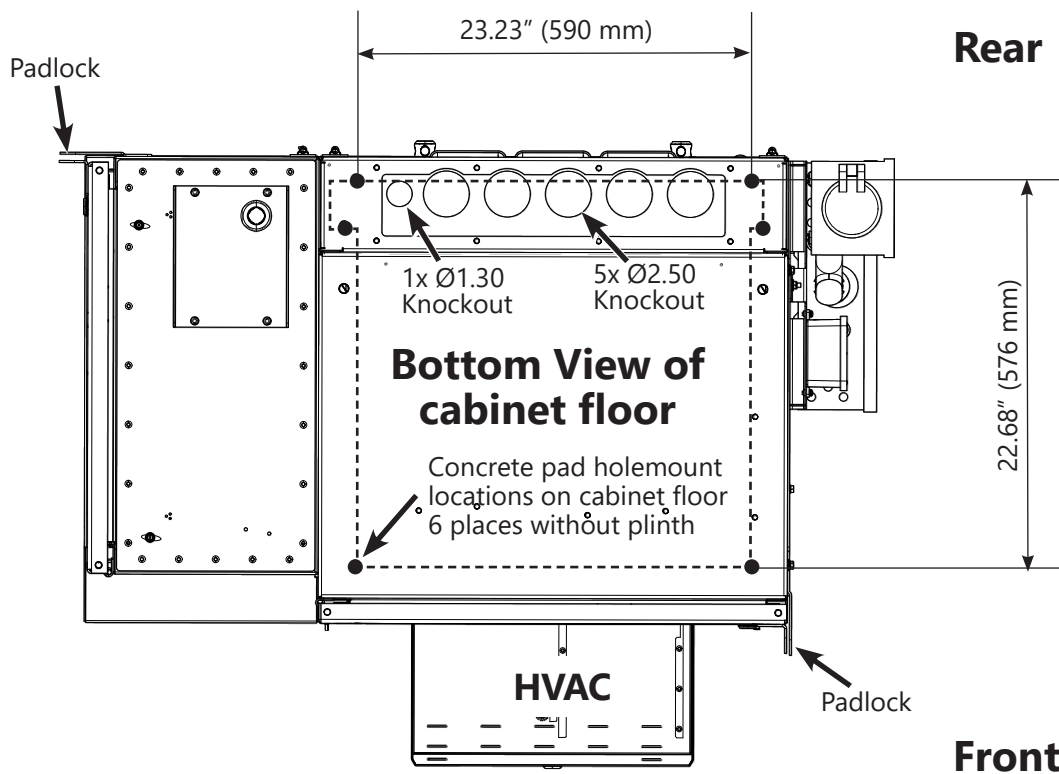

Figure 21. Mounting Footprint for CommScope Telco All-In-One Cabinet
- Fasten cabinet to a concrete pad or vault from cabinet pad mount holes per Figure 18 and Figure 21. CommScope requires use of eight mounting holes.